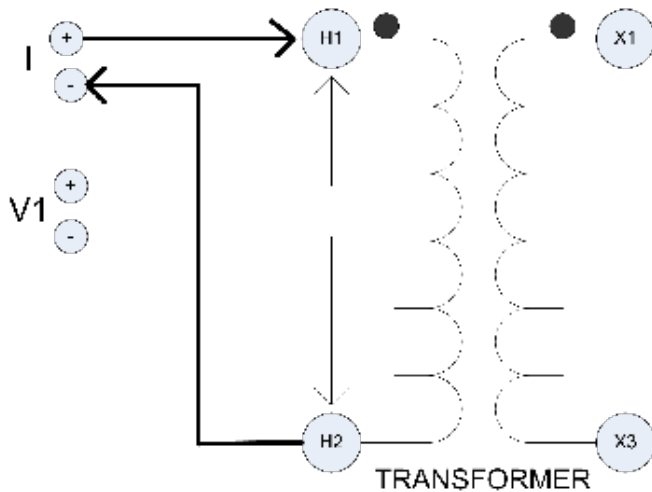

Figure 2: Single Winding Measurement
4. Connect current leads (I) to test specimen winding. See Figure 2.
5. Connect "V1" voltage leads to test specimen winding. **Voltage leads should always be placed inside (between) current leads and the transformer.** Do not place potential leads on the current leads, since this will add contact resistance to the measurement. Turn power switch ON (I).